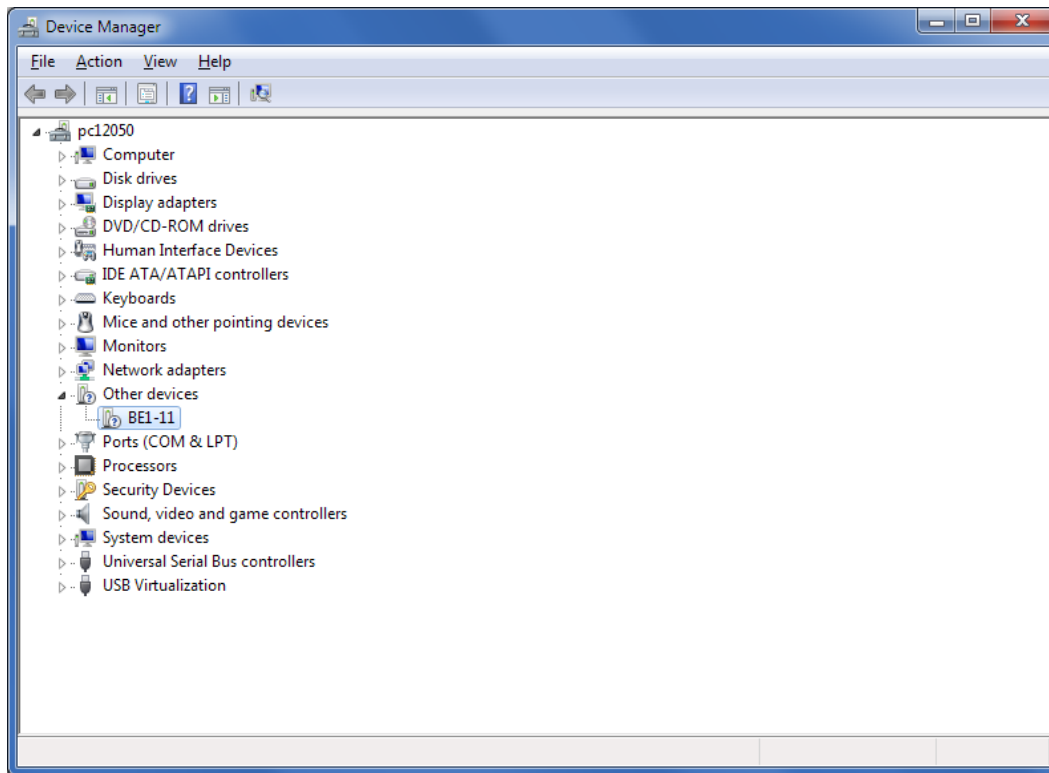

Figure 73-2. Device Manager
- Step 2. Open the Windows® Device Manager as shown in Figure 73-2. Right-click on BE1-11 (or Unknown Device) under Other Devices and select Properties.